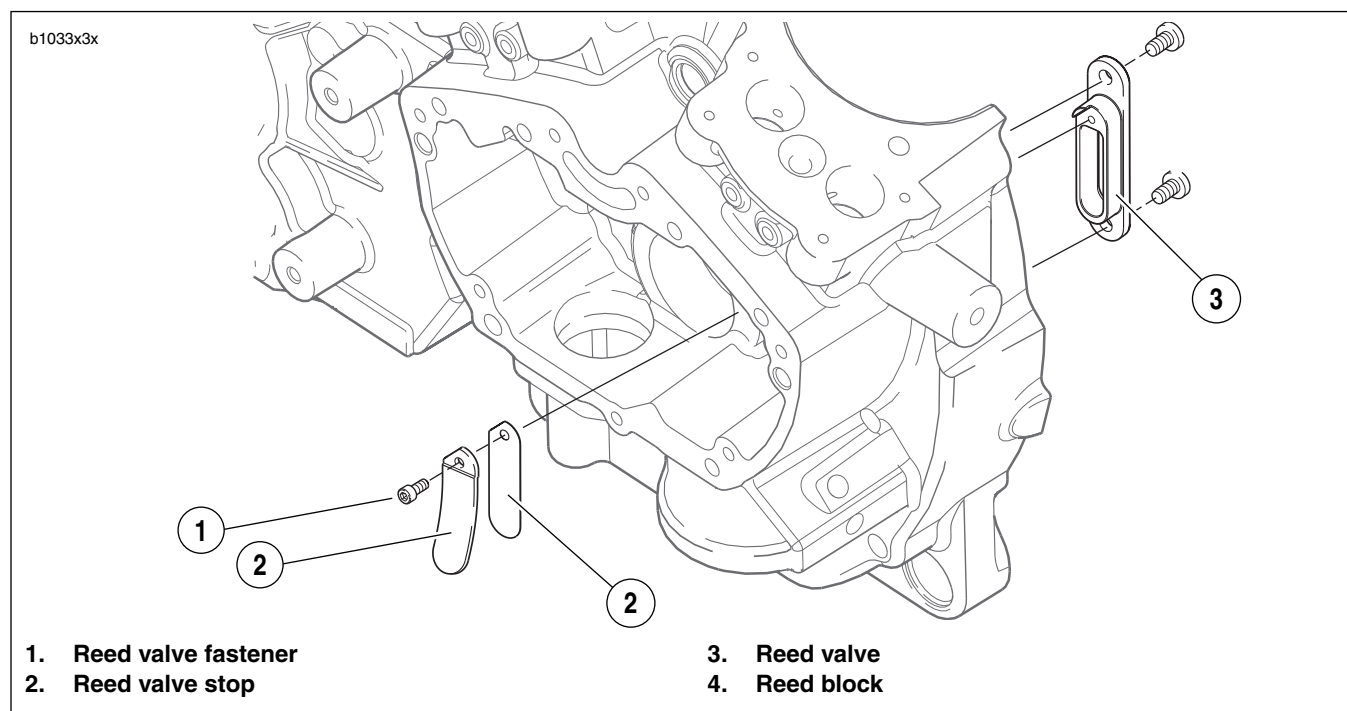
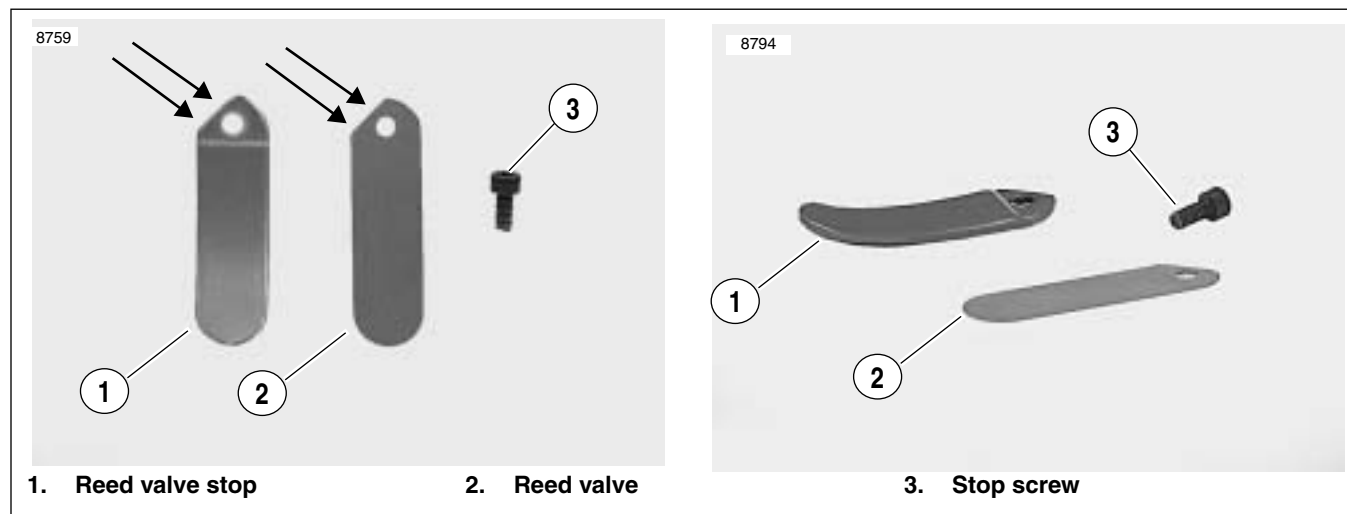

Figure 3-116. Reed Valve Assembly
Figure 3-117. Reed Valve Stop and Reed Valve
- See Figure 3-116. The reed valve (3) opens on the downstroke to relieve crankcase pressure and closes on the upstroke to prevent vapors returning to the crankcase. The curved reed valve stop (2) limits the movement of the reed valve. See 3.13 CRANKCASE BREATHING SYSTEM.
1. Remove the fastener (1), the reed valve stop (2) and the reed valve (3).
2. See Figure 3-117. To replace the assembly, align the edges of the reed valve (3) and the reed valve stop (2) to prevent premature failure of the reed valve.
See Figure 3-116. It is not necessary to replace the reed block (4) along with the reed valve. The block can only be replaced after separating the crankcase halves.